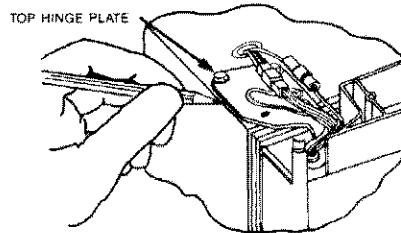

FIGURE 3A
5. Mark around the upper hinge brackets with a pencil to locate them for reassembly (see Figure 3A).